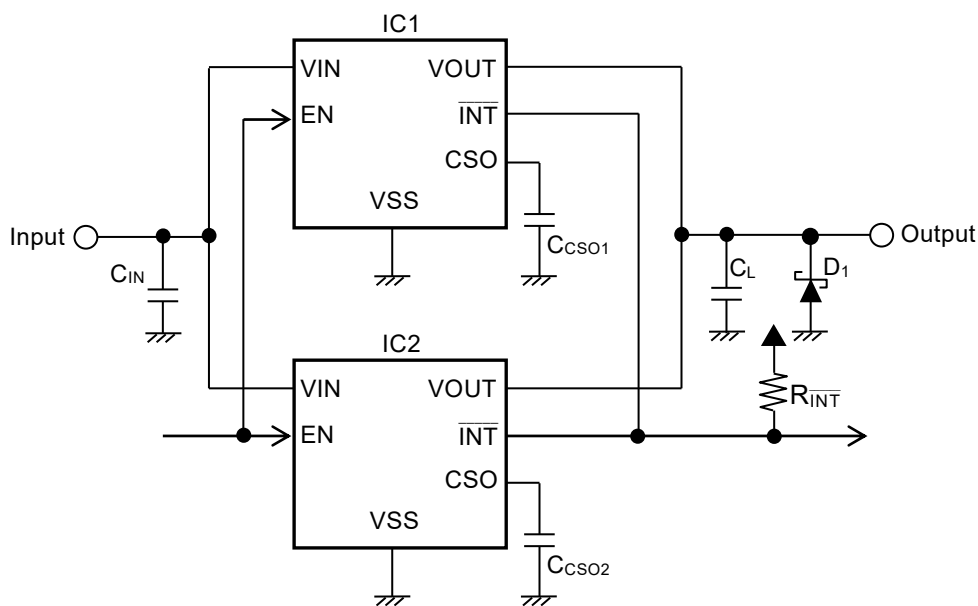

Figure 15
Figure 15 shows a connection diagram of two ICs operated in parallel. A parallel connection can double the output current.
By connecting n^* number of ICs in parallel, as shown in **Figure 15**, the output current can be multiplied by n times. When n number of ICs with the same set limit current is connected in parallel, the overall on-resistance ($R_{ON,n}$) becomes $R_{ON,n} = R_{ON} / n$ and the overall limit current ($I_{LIM,n}$) becomes $I_{LIM,n} = I_{LIM} \times n$.
2. As shown in Figure 15, the capacitor for stabilizing the input (C_{IN}), the capacitor for stabilizing the output (C_L) and the protection Schottky-barrier diode (D_1) can be shared, but the ICs should be placed close together and C_{IN} , C_L and D_1 should be located as close to the IC connection pins as possible.